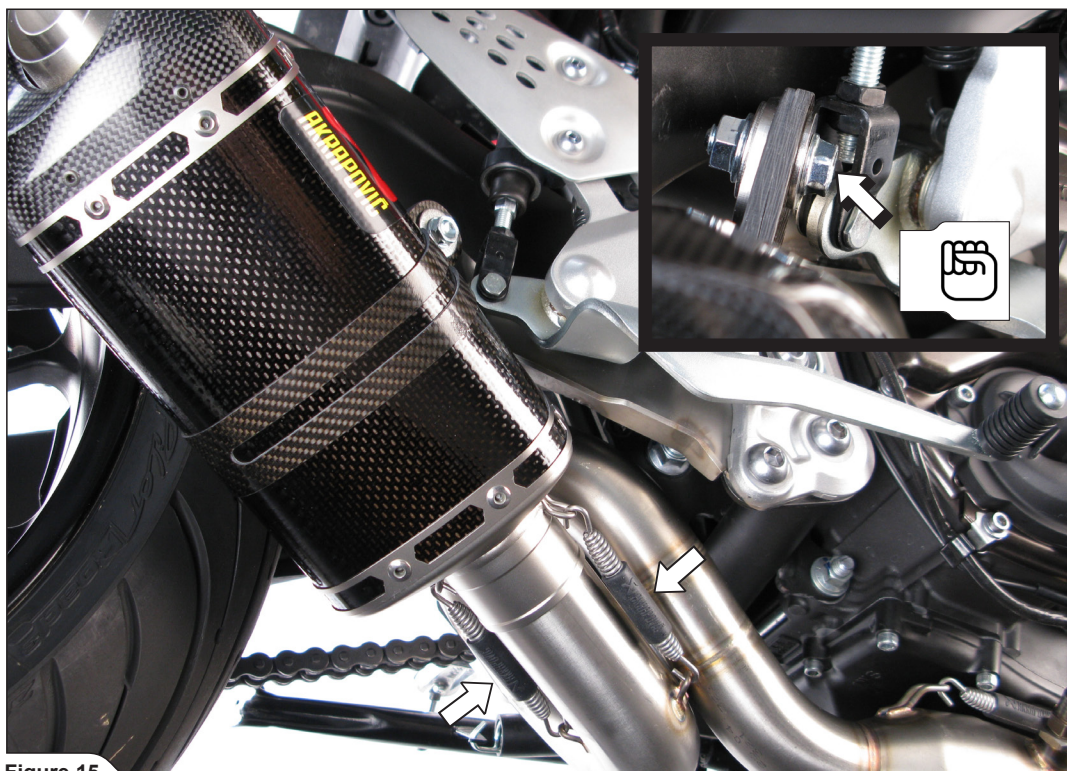

Figure 15
6. Position the muffler correctly and slide it onto the outlet side of the collector, attach the springs and hand tighten the clamp onto the bracket, using bolt, washer and nut from Akrapovič installation kit (Figure 15).